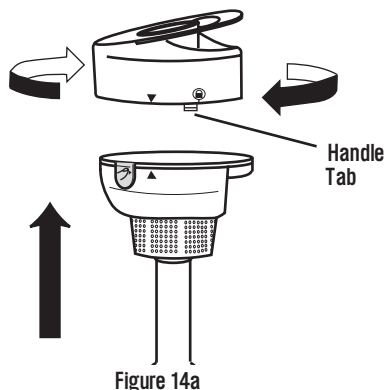

Figure 14a
1. After cleaning, you must reassemble the Bin Handle/Filter Assembly and the Mesh Shroud and Shaft. Position the Bin Handle/Filter Assembly onto the Mesh Shroud and Shaft to create the complete Collection Bin Cover/Handle. Line up the arrow on the Mesh Shroud and Shaft with the Bin Handle/Filter Assembly. Guide the tab from the Handle into the Shaft. (See Figure 14a.)